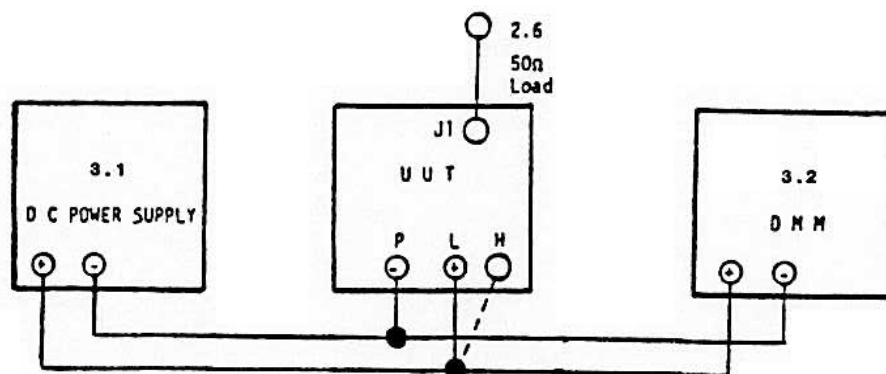

Figure 3.2 Test Setup for Atomic Resonance Lock Test
3.3.1 Connect equipment as shown in Figure 3.2 with the 50 ohm feedthrough connected at the M-100 output connector J1. Do not make the dotted-line connection until instructed to do so.